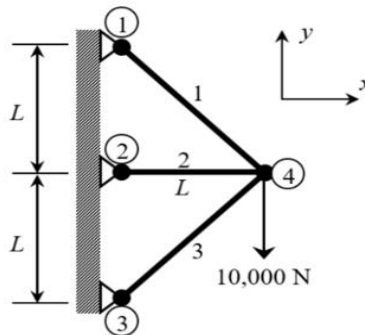

Fig. 4
6. Use the finite element method to solve the plane truss shown in **Fig. 4**. Assume $AE = 10^6 \text{ N}$, $L = 1\text{m}$. Determine the nodal displacements, element forces in each element, and the support reactions. 14M